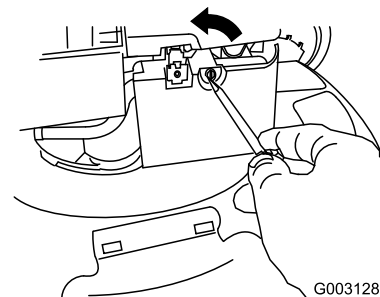

Figure 34
- Use a screw driver to open the air filter cover (Figure 34).